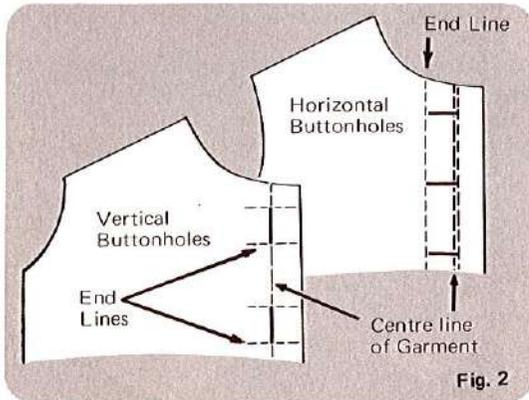

Fig. 2
1. Remove presser foot and attach one-step buttonhole foot to the machine. When sewing lightweight and knit fabrics such as thin muslin and nylon tricot, we recommend removing underplate from the foot. Assemble underplate to the one-step buttonhole foot with tab A entering slot B in the foot. (See Fig. 2) Then, attach the foot to the machine as instructed on page 6.
2. Determine length of button and mark the start and end lines of buttonholes on the garment. (See Fig. 2) Always make a test buttonhole on a sample of your fabric.
- If the stitches on the left side are too open, turn the balance dial to the right (toward WWW) while sewing the first leg of the buttonhole until you obtain the appearance of the stitch to your liking. (See Fig. 2)